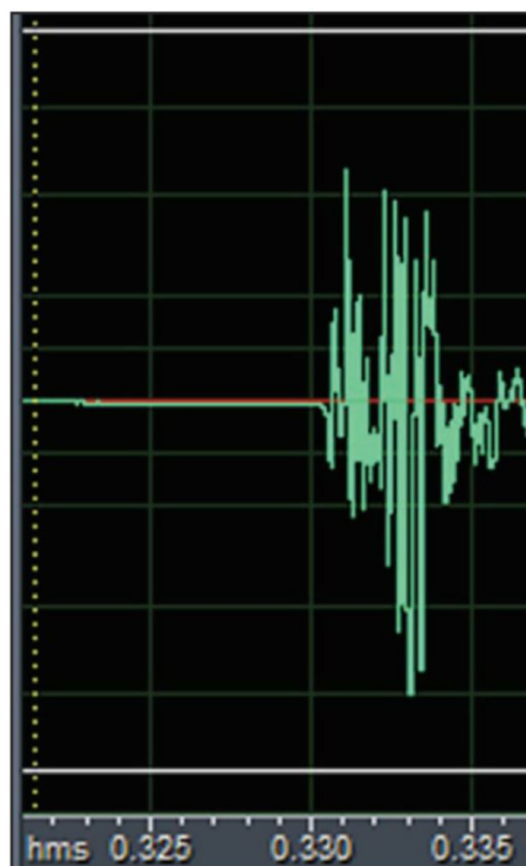
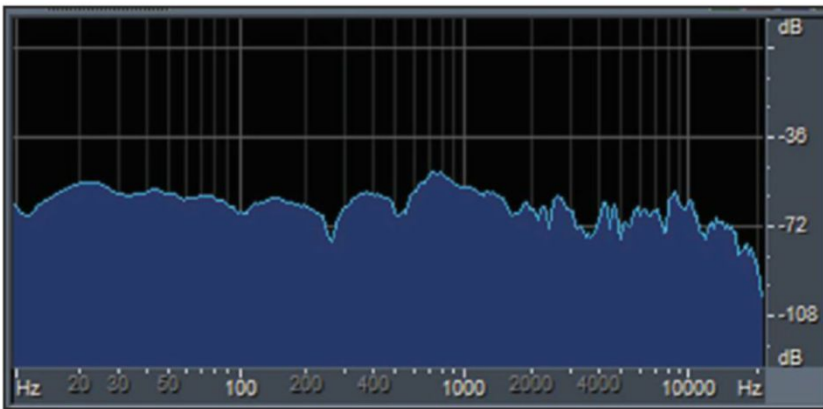

Figure 1: This hand clap recording is far from being a perfect impulse.
Figure 2: The spectrum of the hand clap has insufficient energy, and does not have a flat spectrum.
Figure 1 shows a .wav file of a hand clap recorded in an acoustically dry space (RT $\approx$ 1.2 seconds). The multiple spikes represent different portions of the hands colliding at slightly different times (1ms to 2 ms apart), and reflections from a nearby table. The spectrum of the hand clap shown in **Figure 2** reveals that although the instantaneous sound level can be rather high, the total energy in the signal is limited due to the
- [4] Griesinger, op cit, Figure 2.